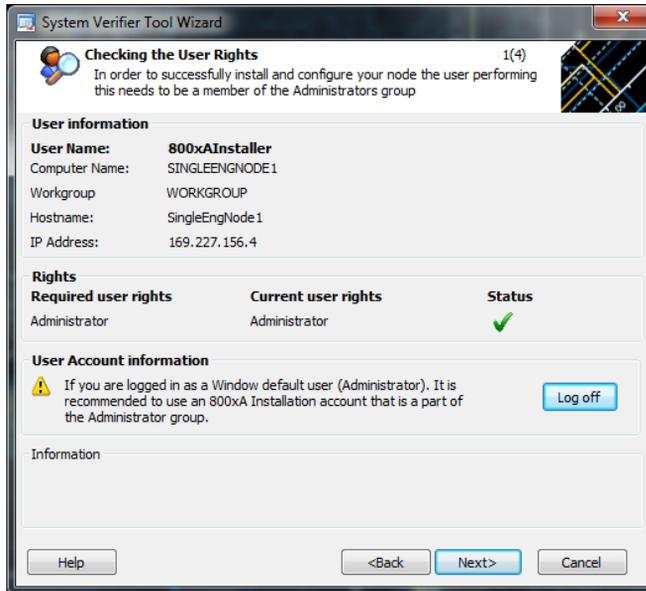

Figure 38. Checking the User Rights Dialog Box
1. Click **Next** to continue to the Checking the User Rights dialog box (Figure 38). In order to successfully install and configure the node, the user performing this procedure needs to be a member of the Administrators Group. If this condition